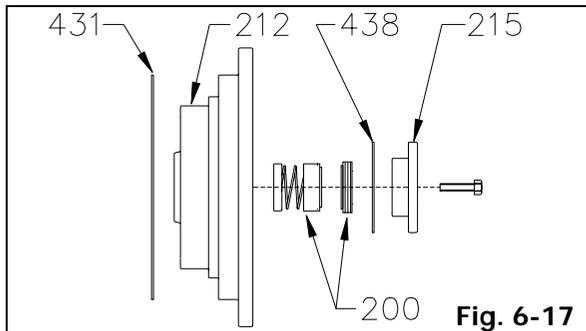

Fig. 6-17
4. Remove two (2) seal cover bolts, lift off seal cover (215) from stuffing box cover (212), and remove rotary portion of mechanical seal (200) from stuffing box cover (212).
5. Remove seal cover gasket (438) and stationary portion of mechanical seal (200) gently from seal cover (215) (Fig. 6-17).